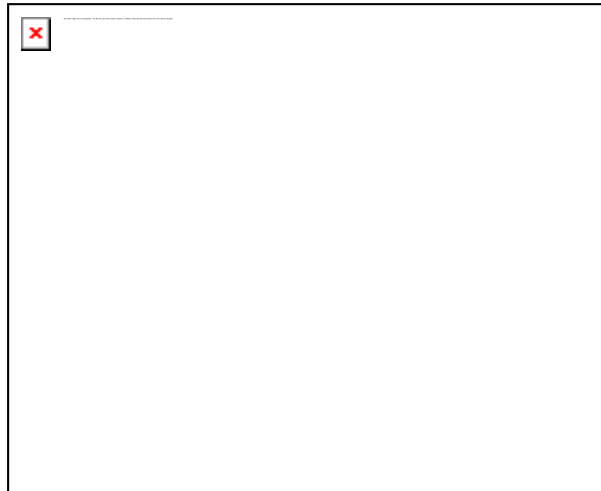

Figure 8. Front coolant pipes to be removed for 3.0T.
5. For 3.0T only: remove the coolant supply lines (intercooler of the supercharger) in the front of the engine (Figure 8).